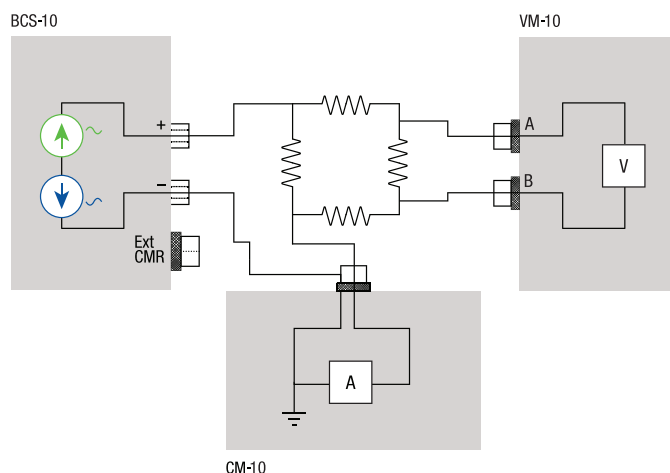

Figure 10 Using a CM-10 with a BCS-10 — do not use the CMR in this case
If you want to use a current measurement module (CM-10) to measure the current from the BCS-10, then since the CM input is a virtual ground, you must ground the I- output of the BCS-10 as shown in Figure 10. This effectively converts the balanced current output of the BCS-10 to a single-ended current source. In this case, the CMR function must be turned off.
The M81-SSM system provides many unique source and measure capabilities that enhance noise rejection in low-level signal applications, such as differential (balanced) source and measure connections. In addition, the BCS-10 module's CMR function can be used to increase the accuracy of a measurement and decrease the noise of the measurement. Except for the case described in Figure 10, the CMR function should always be used in external mode. Typically, the external CMR connection on the BCS-10 module should be connected to the V- (B) input of a VM-10 module.